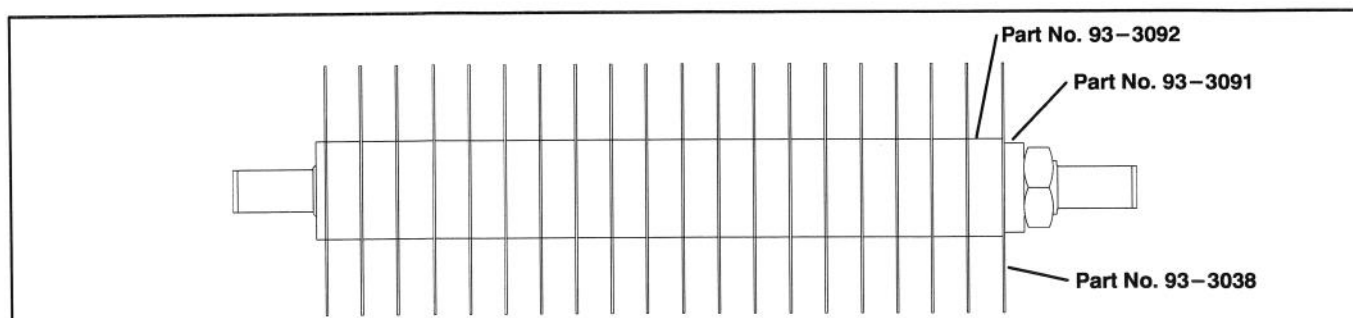

Figure 13
1" Spacing, Kit Part No. 93-4346 – Includes (4) Blades (part no. 93-3038), (15) 1/4" Thick Spacers (part no. 94-2720) and (4) 1" Thick Spacers (part no. 93-3092) (Fig. 13).